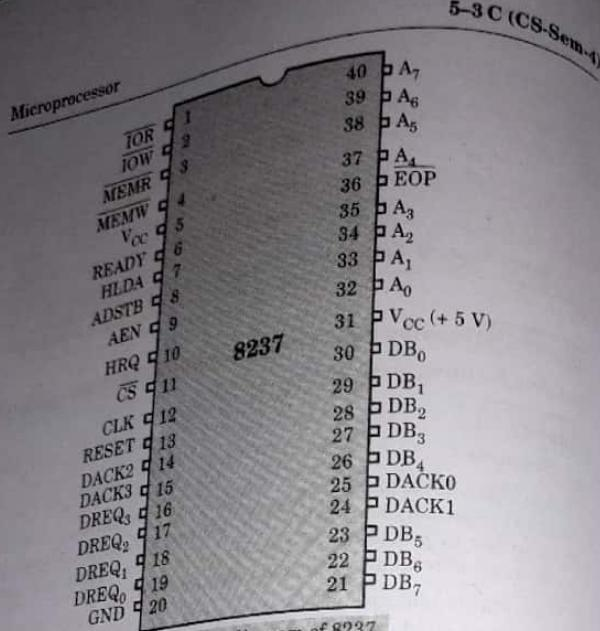

Fig. 5.1.1. Pin diagram of 8237.
4. **Pin diagram :** Pin diagram of 8237 DMA controller is shown in Fig. 5.1.1. The functional signal description in brief as follows: